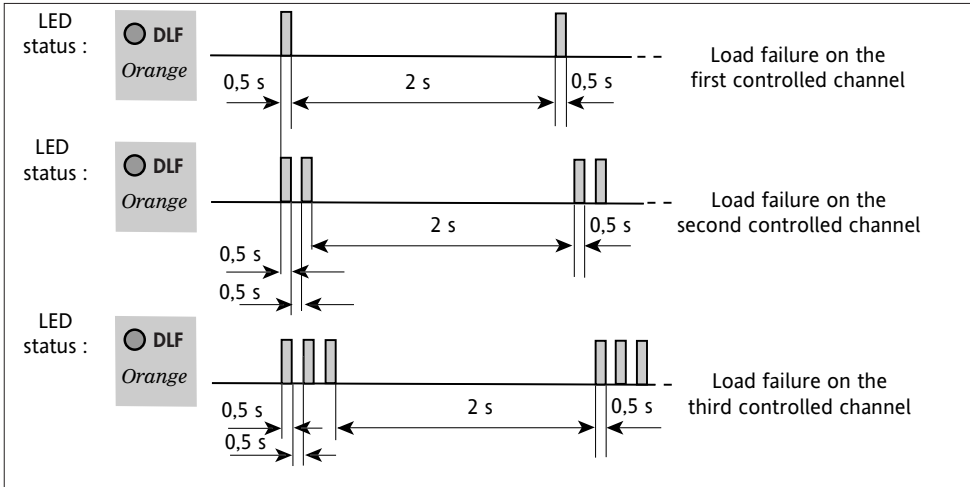

Figure 3-2 Signalling of channel for load failure on the DLF LED
- The DLF indicator flashes in a particular way to indicate the channel on which the load failure has occurred (see figure 3-2). DLF option with SWIR is not UL approved.